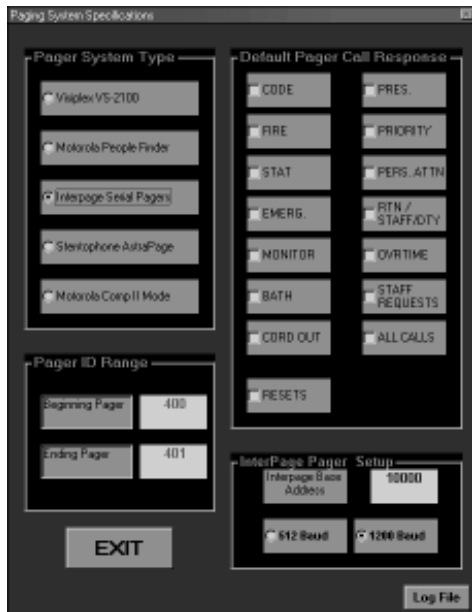

Figure 26: Paging System Specifications
8. Using the keyboard, press the down arrow key until **SYSTEM DESCRIPTION** is highlighted and then press the “ENTER” key. The **PAGING SYSTEM SPECIFICATIONS** Menu will appear; refer to *Figure 26*.